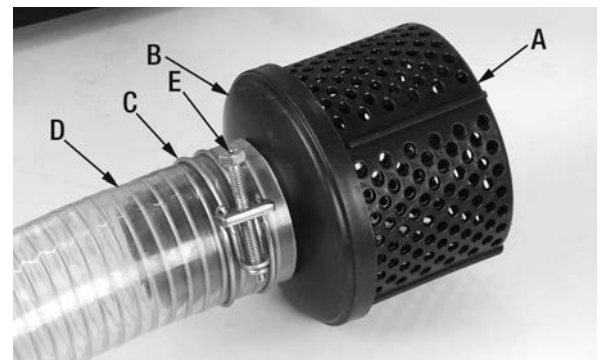

Figure 8
- 2) If you purchased a non-thread 2" reinforced hose, attach it to the inlet hose adaptor and fasten hose as shown in Fig.8 and explained in the following steps.
- 1) Snap the strainer basket (A) Fig.8 and the strainer basket adaptor (B) together as shown.
- 2) Place a wire clamp (C) over the end of the inlet hose (D) (it may be required to cut the 2" NPT off to install the adaptor), then slide both over the strainer basket adaptor.
- 3) With the hose completely positioned over the strainer basket adaptor, position the wire clamp over the ribbed portion of the strainer basket adaptor and tighten wire clamp screw (E) using a screwdriver. Make sure to tighten properly to avoid water leaks.